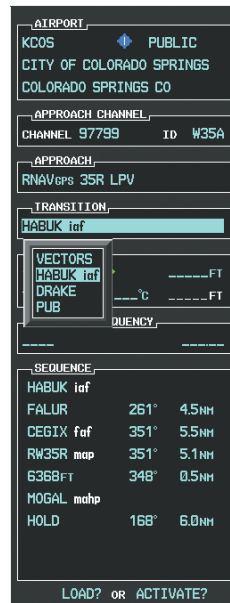

Figure 5-133 List of Available Transitions
- e) Press the **ENT** Key. A list of available transitions for the selected approach is displayed as in Figure 5-133.